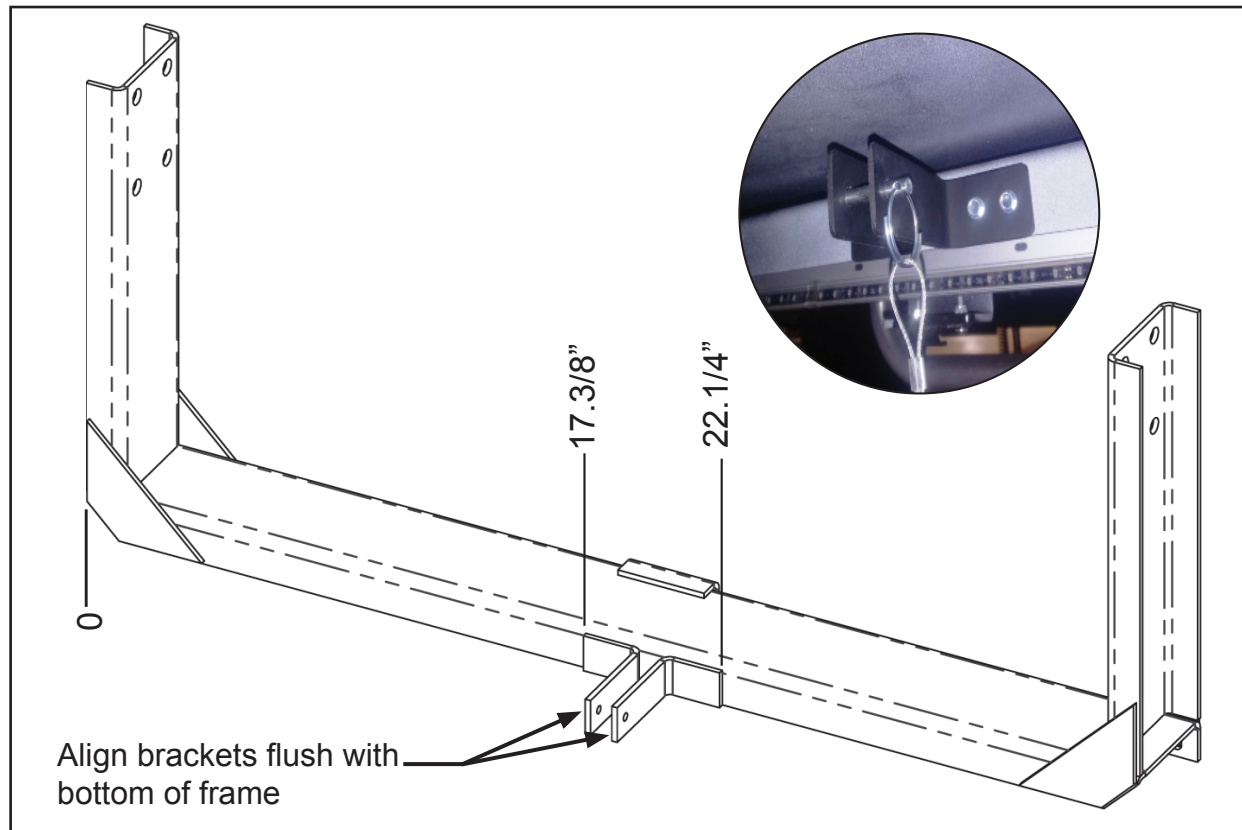

Figure 16
15. Measuring from the doorside of the frame, use the brackets, included in Repair Kit B, as a template to mark the locations for the bracket mounting holes. See Figure 16 for the required measurements.